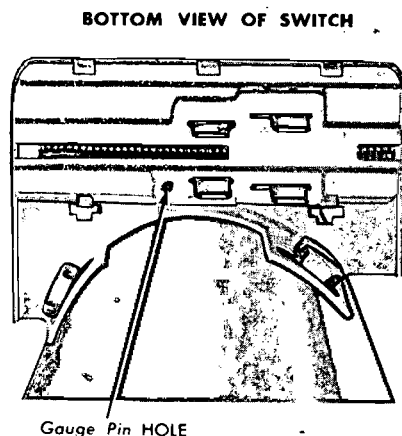

FIG. 20—Typical Starter Neutral Switch-Column Shift
2. To adjust the switch, loosen the retaining screws that locate the switch on the steering column (Fig. 20).
4. Rotate the switch actuating lever until the gauge pin (No. 43 drill) can be inserted into the gauge pin holes (Fig. 20).
and install gauge pin (No. 43 drill) into the gauge pin hole (Fig. 20).